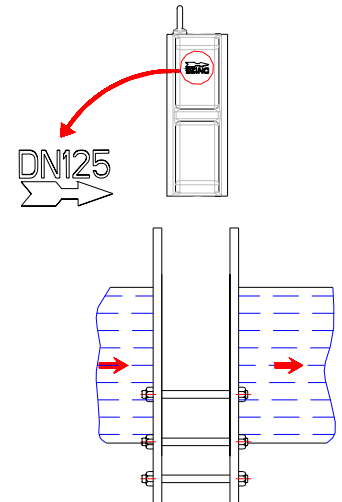

Fig. 1
3. The shaft part of the disc is considered the high-pressure side of the valve, (as indicated on the drawings by a flow arrow). Therefore the effective closure performance is obtained on this side of the valve, and a determination as to the best installation should be made, to utilize this feature. Make sure that the valve is installed using the flow direction arrow as shown on (Fig1).